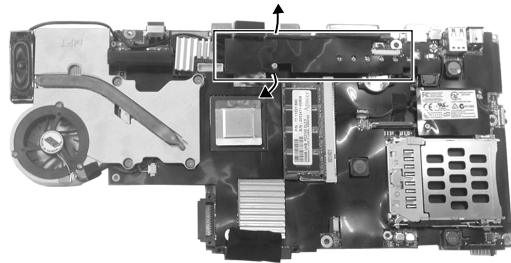

Figure 2-28 Detach the D/D Board
3. Rock the D/D board to detach from the mother board. (Figure 2-28)